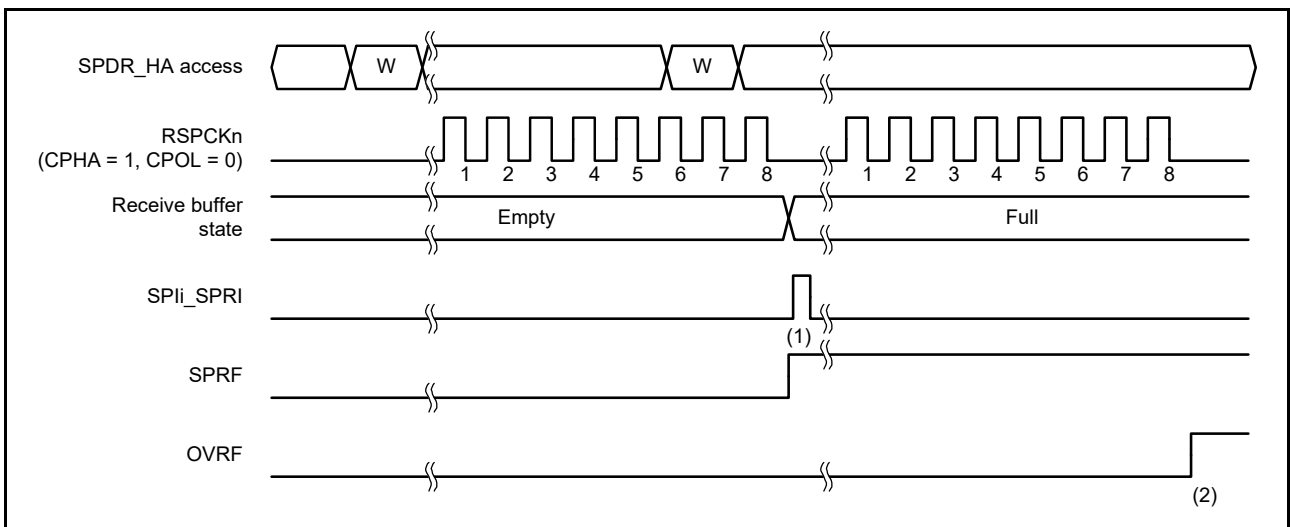

Figure 31.24 Operation example when SPCR.TXMD = 0
Full-duplex synchronous serial communications or transmit operations can only be selected in the Communications Operating Mode Select bit (SPCR.TXMD). The SPDR/SPDR\_HA access shown in Figure 31.24 and Figure 31.25 indicate the condition of access to the register, where W denotes a write cycle.
Figure 31.24 shows an example of operation where the Communications Operating Mode Select bit (SPCR.TXMD) is set to 0. In this example, the SPDCR.SPFC[1:0] bits are 00b, the SPCMDm.CPHA bit is 1, and the SPCMDm.CPOL bit is 0. The numbers given for RSPCKn in the waveform represent the number of RSPCK cycles, such as the number of transferred bits.
The operation of the flags at timings (1) and (2) in Figure 31.24 is as follows: